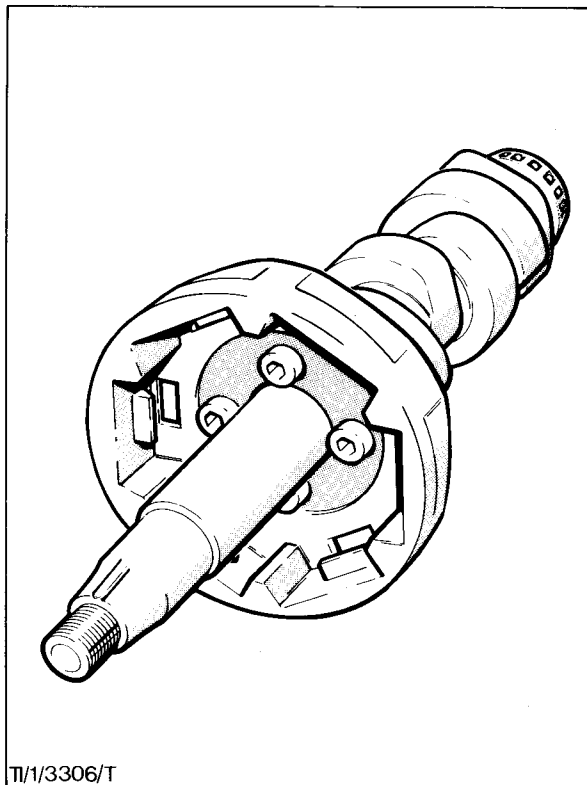

Fig. 64 - Governor Weight Cage Installed (Dover)
2. Dover - Fit the governor weight cage and retaining plate onto the camshaft. Insert the four socket head bolts and tighten them to the specified torque (Fig. 64).